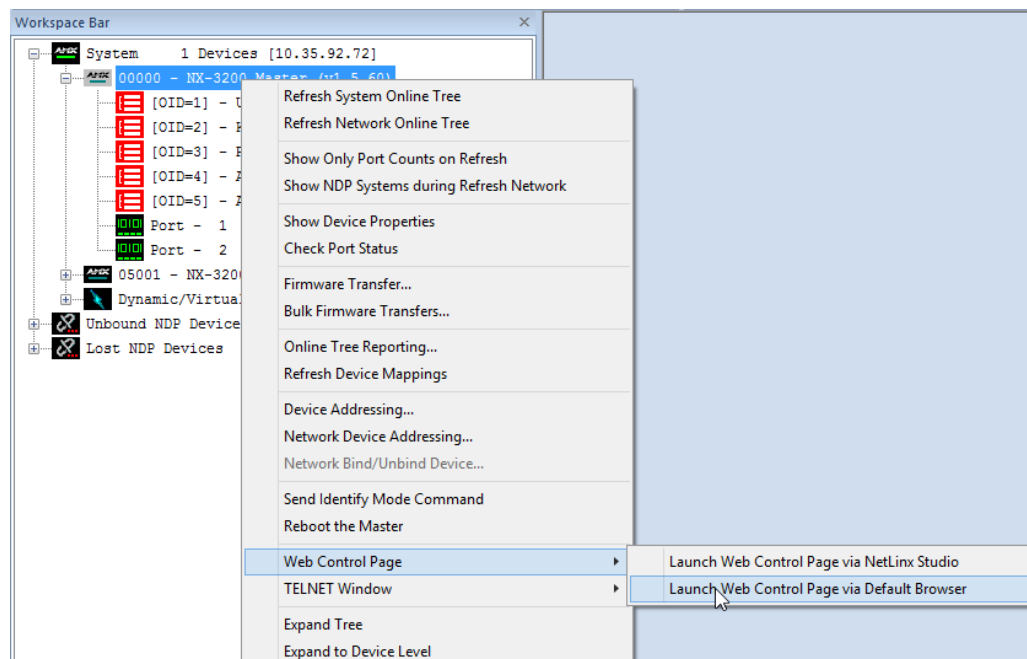

FIG. 88 NetLinx Studio online tree (NX Master selected) - Web Control Page options
2. Right-click on the NX Master and select **Web Control Page** to choose how to access the Master's online configuration pages (or "WebConsole"). While either selection is acceptable, in this example, the **Launch Web Control Page via Default Browser** option is selected (FIG. 88):
2. Right-click on the NX Master and select **Web Control Page** to choose how to access the Master's online configuration pages (or "WebConsole"). While either selection is acceptable, in this example, the **Launch Web Control Page via Default Browser** option is selected (see FIG. 88 on page 48).